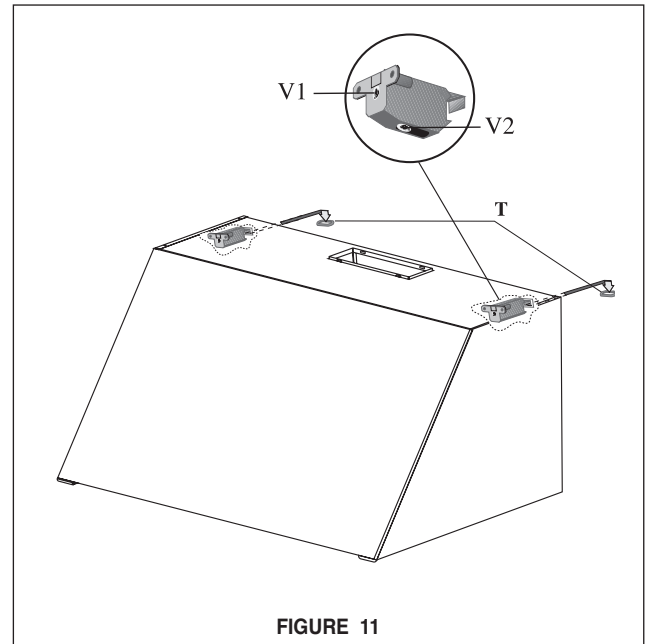

FIGURE 11
5. The canopy attaches to the wall by two screws discussed earlier in the installation instructions. The canopy hangs from these screws by brackets inside the rangehood shown in **FIGURE 11**. Before attempting to hang the canopy, you should rotate the adjustment screw marked V1 in **FIGURE 11** counterclockwise to extend the brackets from the canopy. Using a Phillips head screwdriver, rotate this screw counterclockwise to extend the bracket.
8. The brackets shown in **FIGURE 11** are also used to adjust the level of the canopy. Using a Phillips screwdriver, rotate the screw V2 to adjust the level of the canopy.